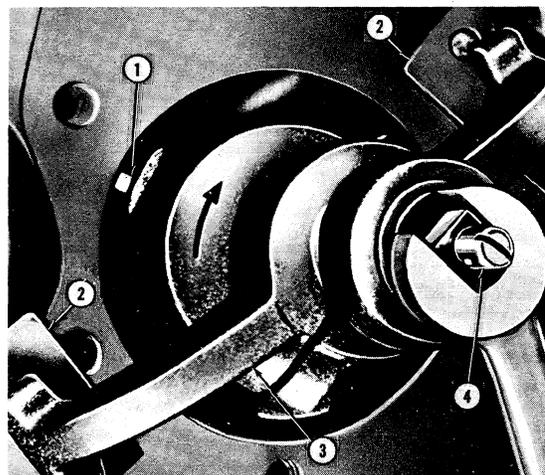

Figure 27
3. Remove any ridge from the top of the cylinder with a cylinder ridge reamer or hard scraper, Figure 27. Do not cut down into the ring travel area.